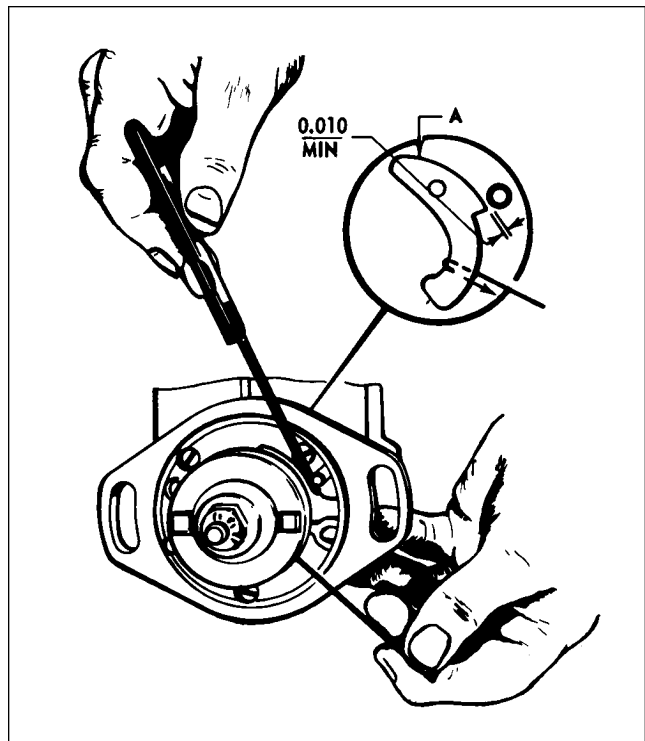

Figure 74-27. Checking Flyweight Clearance of Impulse Coupling
- B. Hold magneto as shown in Figure 74-27. Pull heel of flyweight outward with the hooked wire and make certain that feeler gauge of 0.010 inch minimum thickness will pass between stop pin and the highest point of the flyweight.